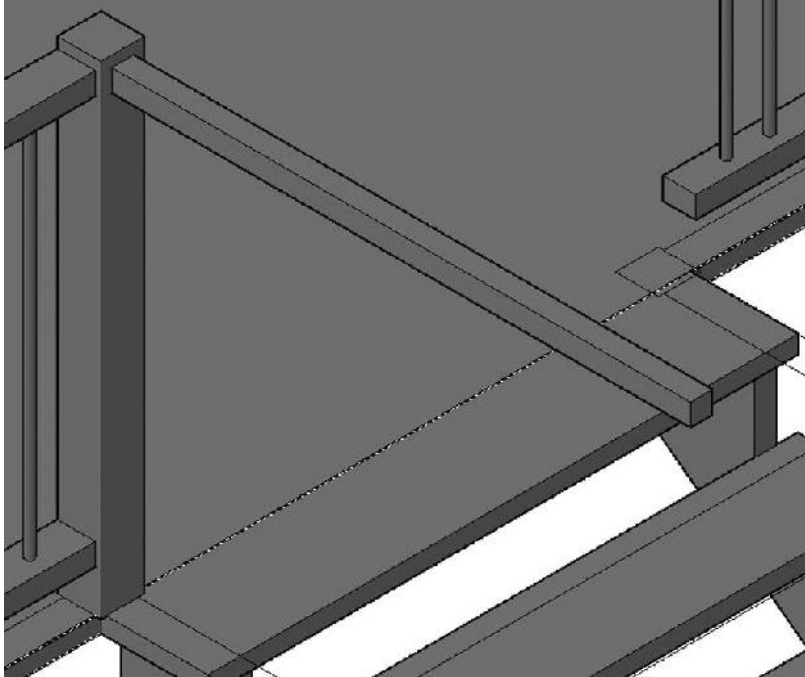

FIGURE 16.61: The box drawn perpendicular to the post
6. Move the handrail so that it is centered on the post and 1" (25 mm) from the top, as shown in Figure 16.61.